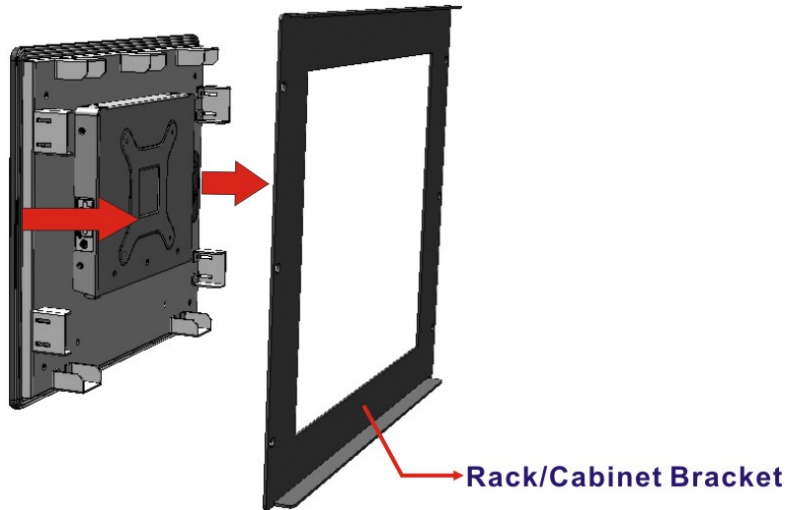

Figure 3-31: Slide into the Rack/Cabinet Bracket
Step 2: Slide the rear of the DM-F series LCD monitor through the rack/cabinet bracket until the aluminum frame is flush against the front of the bracket (**Figure 3-31**).